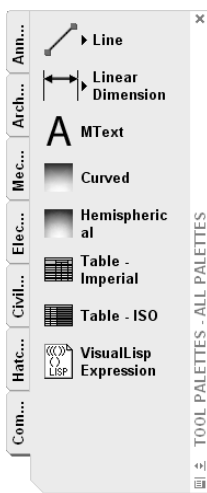

Figure 1-6: You can execute commands from the Tool Palettes window.
14. For your fourth line, choose Tools ⇨ Tool Palettes Window from the menu. Click the Command tab, as shown in Figure 1-6. (Because of the many tabs, you may see only part of the tab title.)